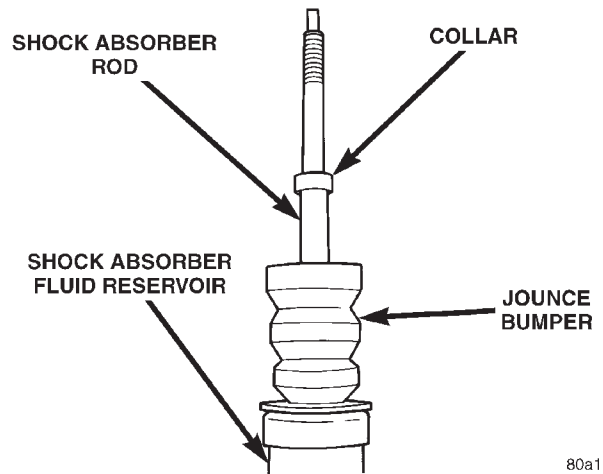

Fig. 95 Shock Absorber Jounce Bumper
NOTE: The collar (Fig. 95) is a press fit on the rod of the shock absorber do not attempt to remove it from the shock absorber rod. The jounce bumper will have to be removed over the collar.
(13) Remove the jounce bumper (Fig. 95) from the rod of the shock absorber assembly.